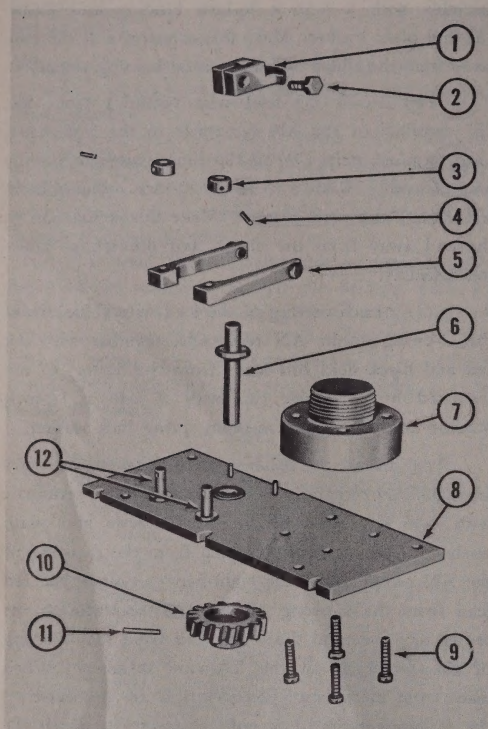

Figure 356 — Limit Cam Shaft Base Assembly
(13) ASSEMBLE AND INSTALL LIMIT CAM SHAFT BASE ASSEMBLY. (See figure 356.)